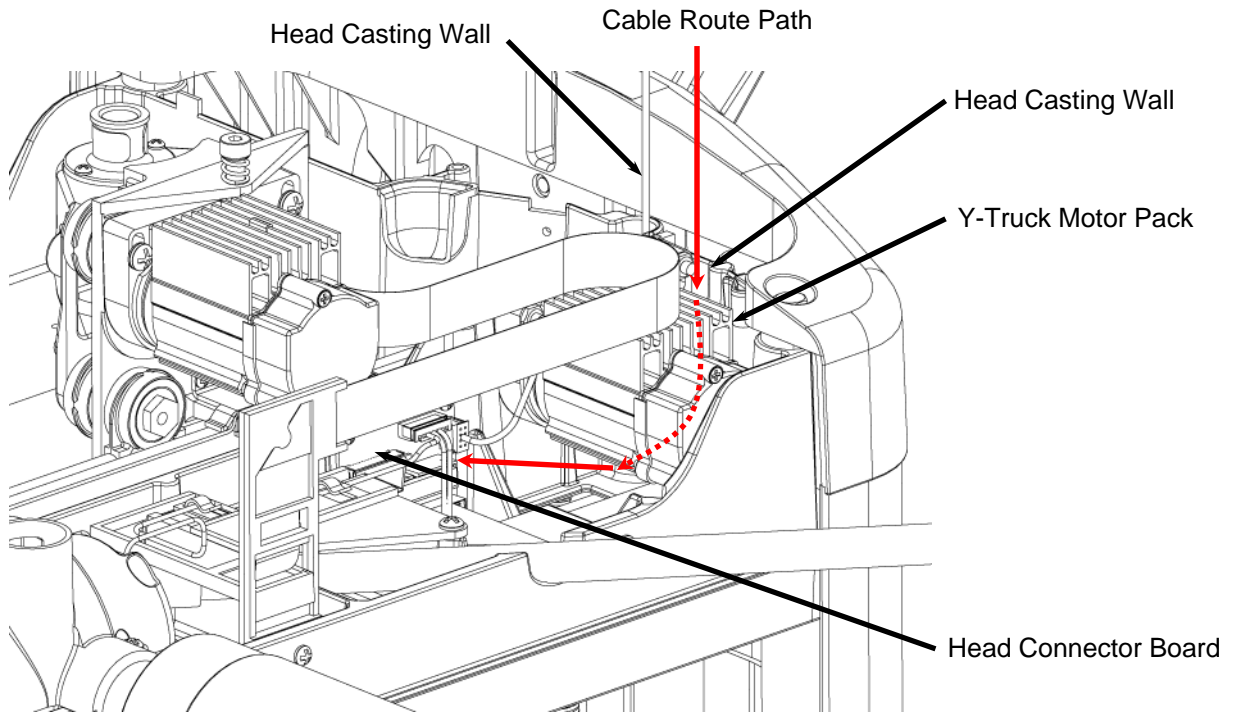

FIGURE 20: ROUTING THE HEAD CABLE HARNESS
- c. Route the Head Cable Harness down between the wall of the head casting and the side of the Y-motor pack, under the Y-motor pack and plug it into the connector board as shown in Figure 20. Make sure that the connector is oriented correctly using the keying ribs and slots before plugging it in. Note that the white wire will be oriented toward the non-keypad side of the machine.